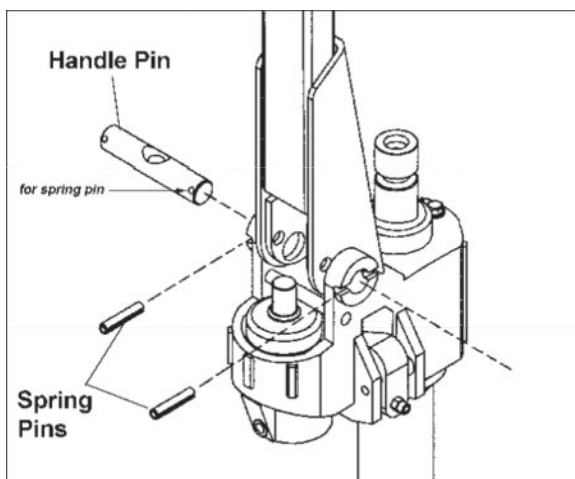

Figure 2
2. Use a hammer to tap the handle pin into the holes of the pump bracket and handle (Figure 2). Use pliers to turn the handle pin until its holes align with the spring pin holes.
4. Use a hammer to tap the spring pins (Figure 2) into the holes on the pump bracket and handle pin.